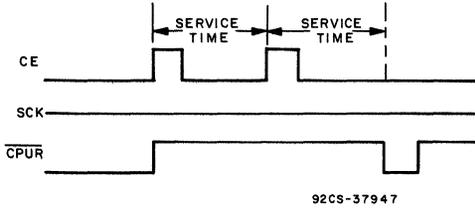

Fig. 11 - Watchdog operation waveforms.
3. Watchdog Reset (actually a non-transfer) - Fig. 11
## WATCHDOG RESET - (See Fig. 11)